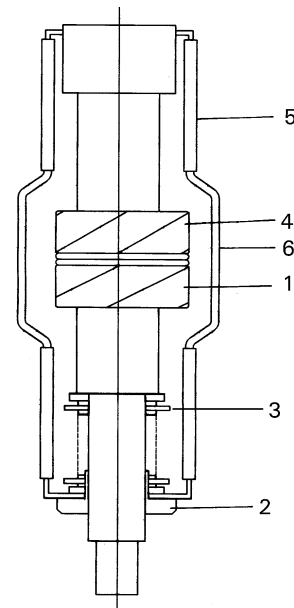

Fig. 9. Section through a vacuum interrupter
3.2 Vacuum Interrupter (Fig. 9)
The basic construction of the interrupter can be seen in Fig. 9. The moving contact (P-1) moves in guide (P-2). The bellows (P-3) follows the travel of contact (P-1) and seals the interrupter against the surrounding atmosphere.